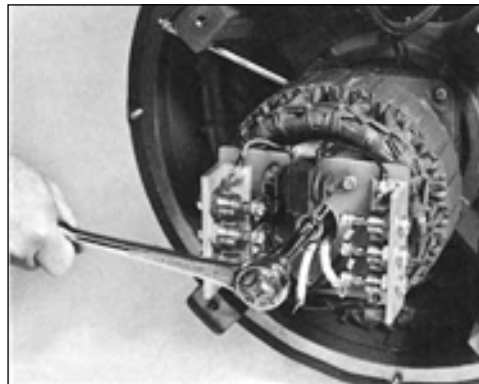

Figure 6-11
2. Remove the capscrew and belleville washer which holds the exciter (rotor) armature to the generator shaft (figure 6-11).